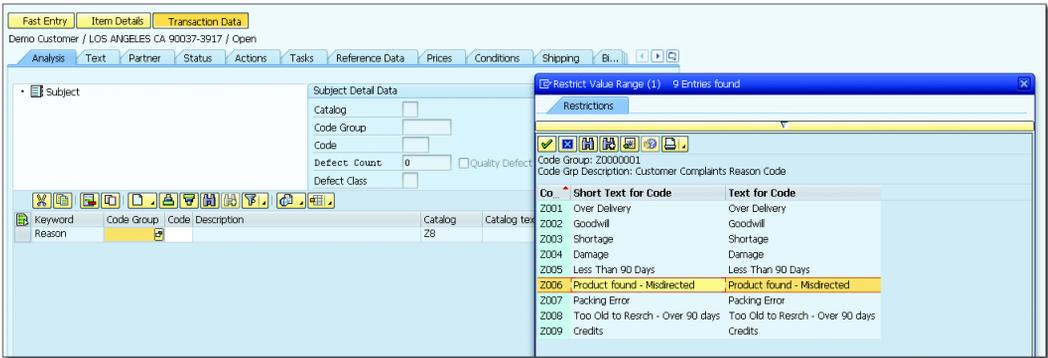

Figure 4.112 Code Groups Shown on the Complaints Transactions
11. Go to the complaints transaction to verify the configuration created in the preceding steps (see Figure 4.112).